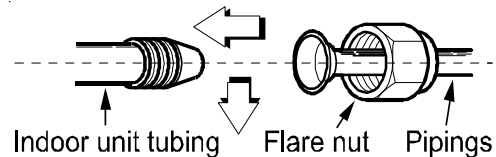

Figure 20
- Align the center of the pipes and finger-tighten the flare nut. Using a spanner and torque wrench (Figures 20 & 21) continue tightening the flare nut until the nut is firmly on the pipe.